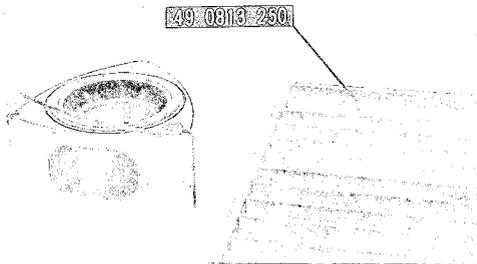

Fig. 1-19 Removing side seal
4. Remove each seal and spring on the other side of the rear rotor, and place them in the seal case, as shown in Fig. 1-19.